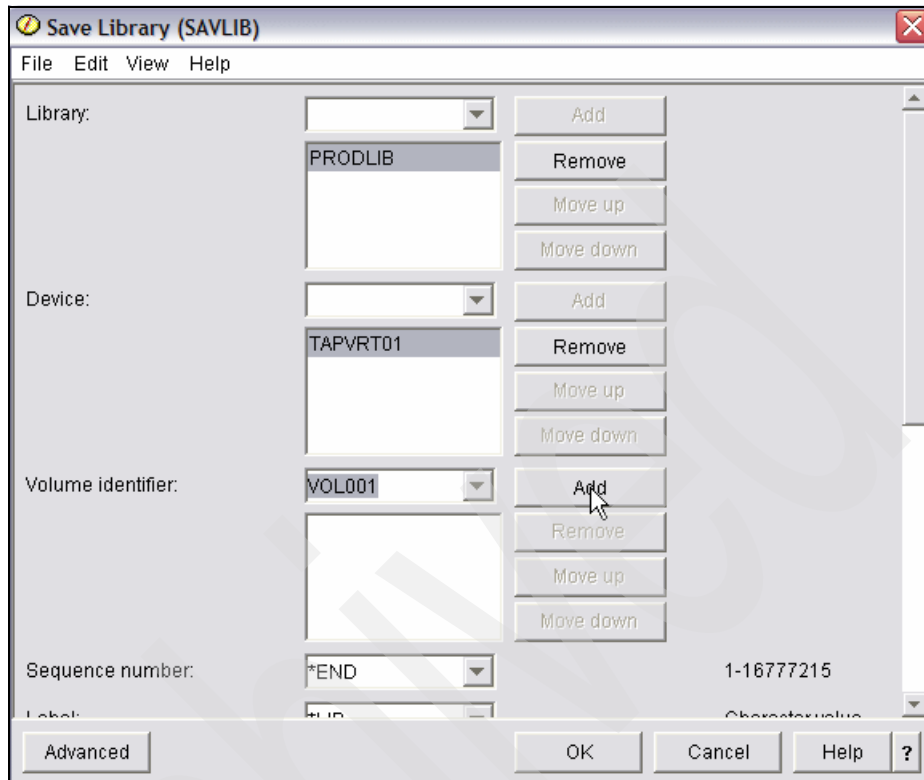

Figure 3-28 SAVLIB prompted through Navigator
- c. Enter the volume (in this case, VOL001) and click **Add**. Then click **OK** in the prompt window; see Figure 3-28 on page 64.